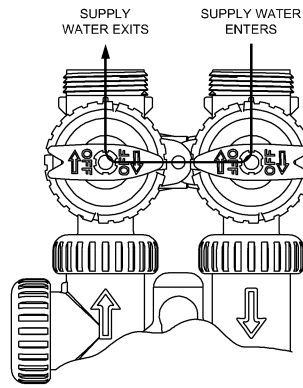
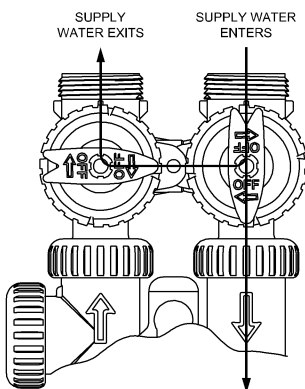

Figure 3
Figure 4
2. Place the bypass valve in the bypass position. (See figure 3 page 1) Turn on the main water supply. Open a cold soft water faucet to flush the piping of any air and/or foreign material. Run until the water is clear.
6. Push REGEN button and hold it down for 3 seconds. The system will advance to the "Fill" position. (Note: If the system is not programmed as "brine refill first", "Backwash" will display first). Keep pushing REGEN button until "Rinse" shows in the lower right hand corner of display. Slowly place the by-pass into the "diagnostic mode" (see figure 4). Run water to the drain until it runs clear. Return the by-pass valve to the by-pass position (figure 3 ). Push REGEN button one more time, "Time" will appear in upper left hand corner of display.